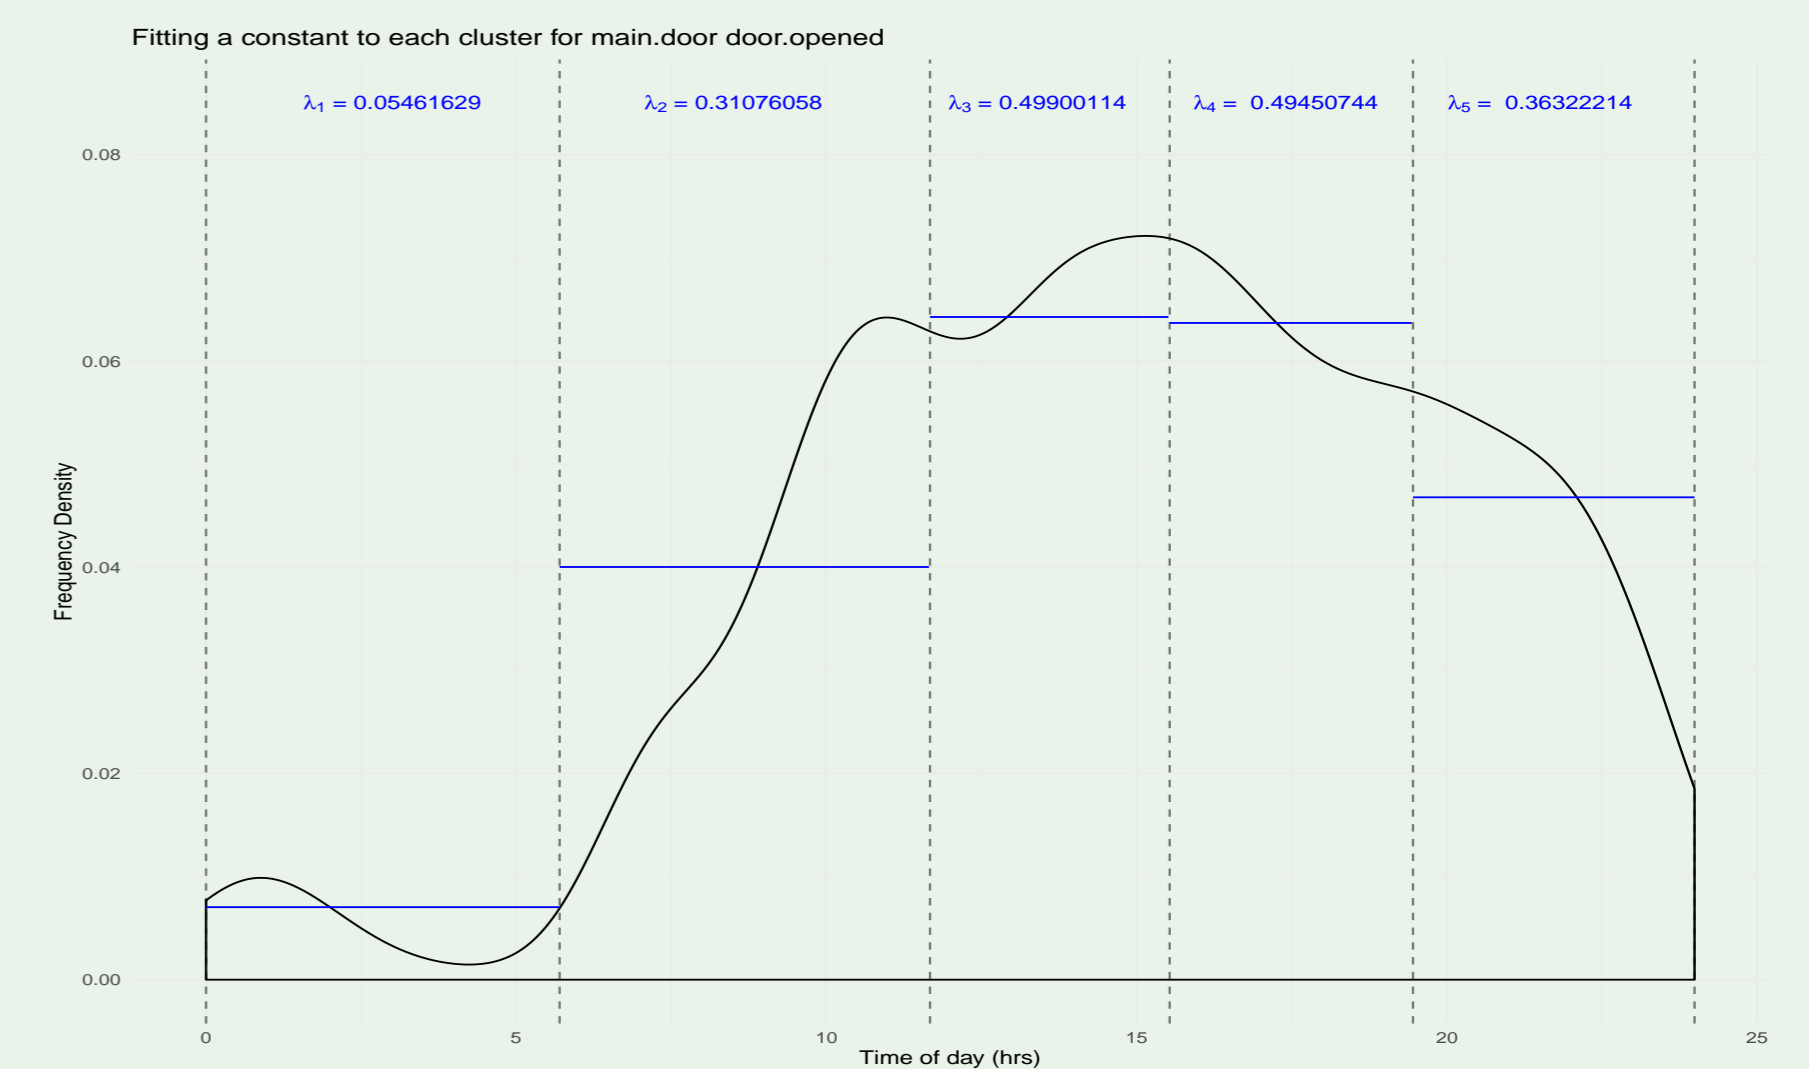

Figure 3: Density and rates obtained the first 127 days.
- Use k-means on the training data and fit a constant to each cluster (as in figure 3).